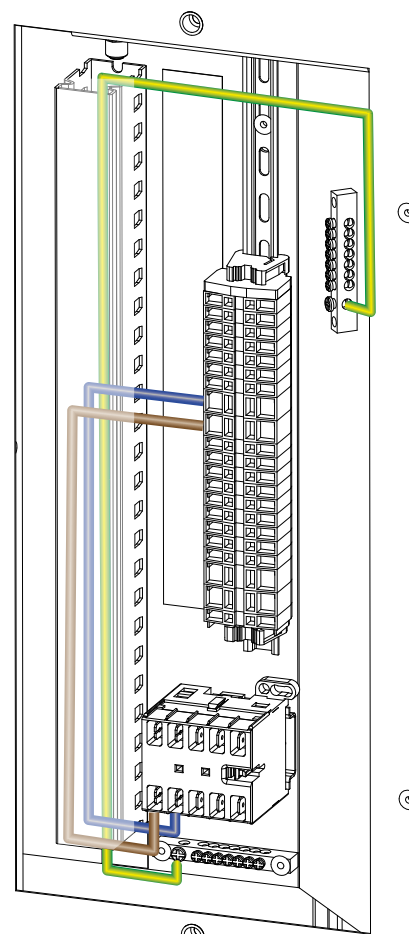

Fig. 11. Nesta - Routing the cables
3. Route the wiring according to “Fig. 11. Nesta - Routing the cables” on page 31.